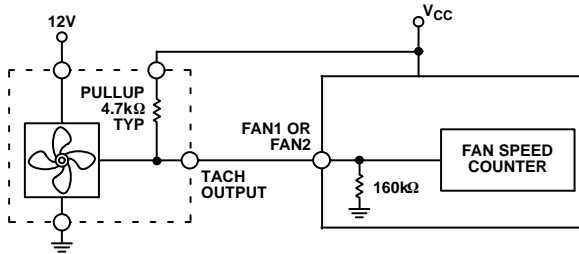

Figure 25. Fan with Tach Pullup to +V_{CC}
1. All of these circuits will provide an output range from 0 V to almost 12 V, apart from Figure 25 which loses the base–emitter voltage drop of Q1 due to the emitter–follower configuration.
Figure 25 to Figure 28 show circuits for most common fan tachometer outputs.
If the fan tachometer output has a resistive pullup to V_{CC}, it can be directly connected to the fan input, as shown in Figure 25.